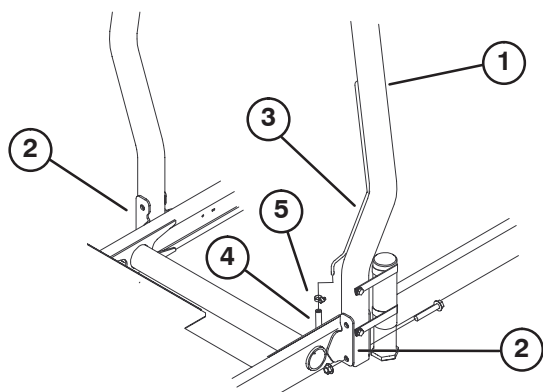

Figure 7
- Secure each side of roll bar to mounting brackets with (2) flange head capscrews and locknuts (Fig. 7). Torque fasteners to 60 ft-lbs.